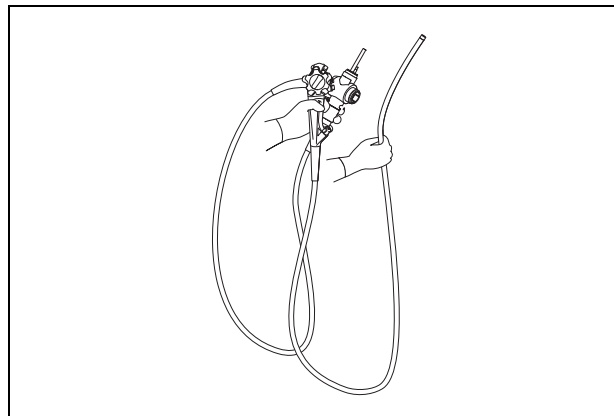

Figure 4.7
3. When carrying the endoscope by hand, loop the universal cord, hold the endoscope connector with the control section in one hand and hold the distal end of the insertion tube securely, but gently without squeezing, in the other hand (see Figure 4.7).